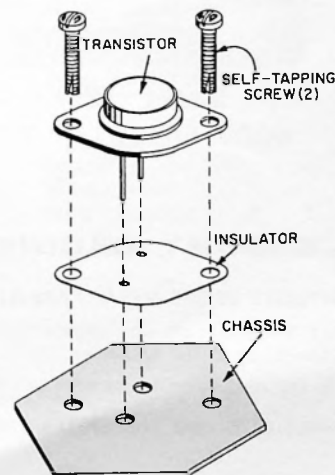

FIGURE 35. MOUNTING TRANSISTORS
- Mount each of the following transistors with an insulator and two self-tapping screws as shown in Figure 35.